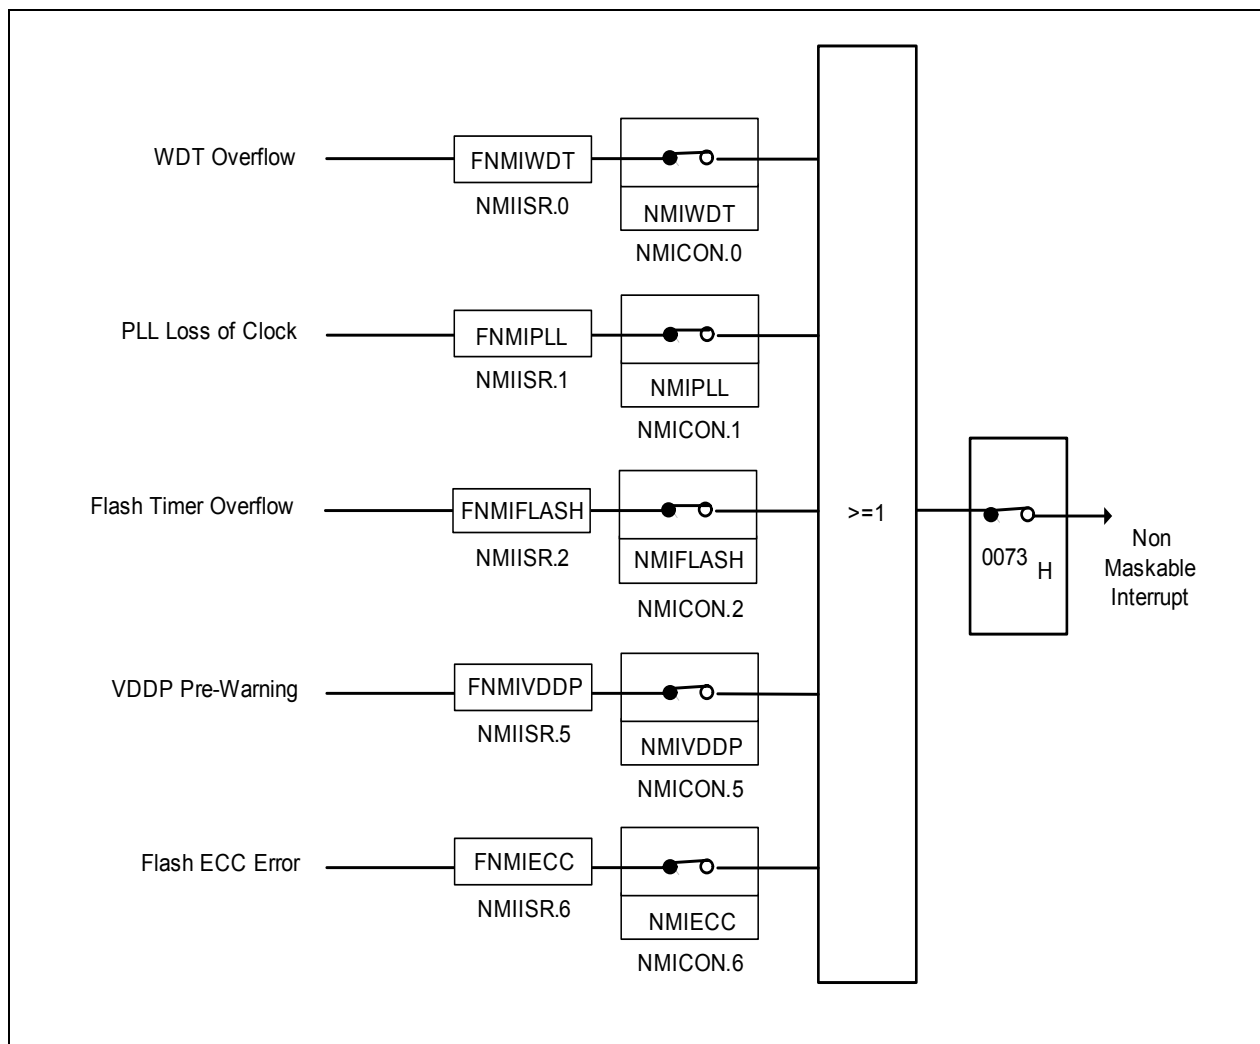
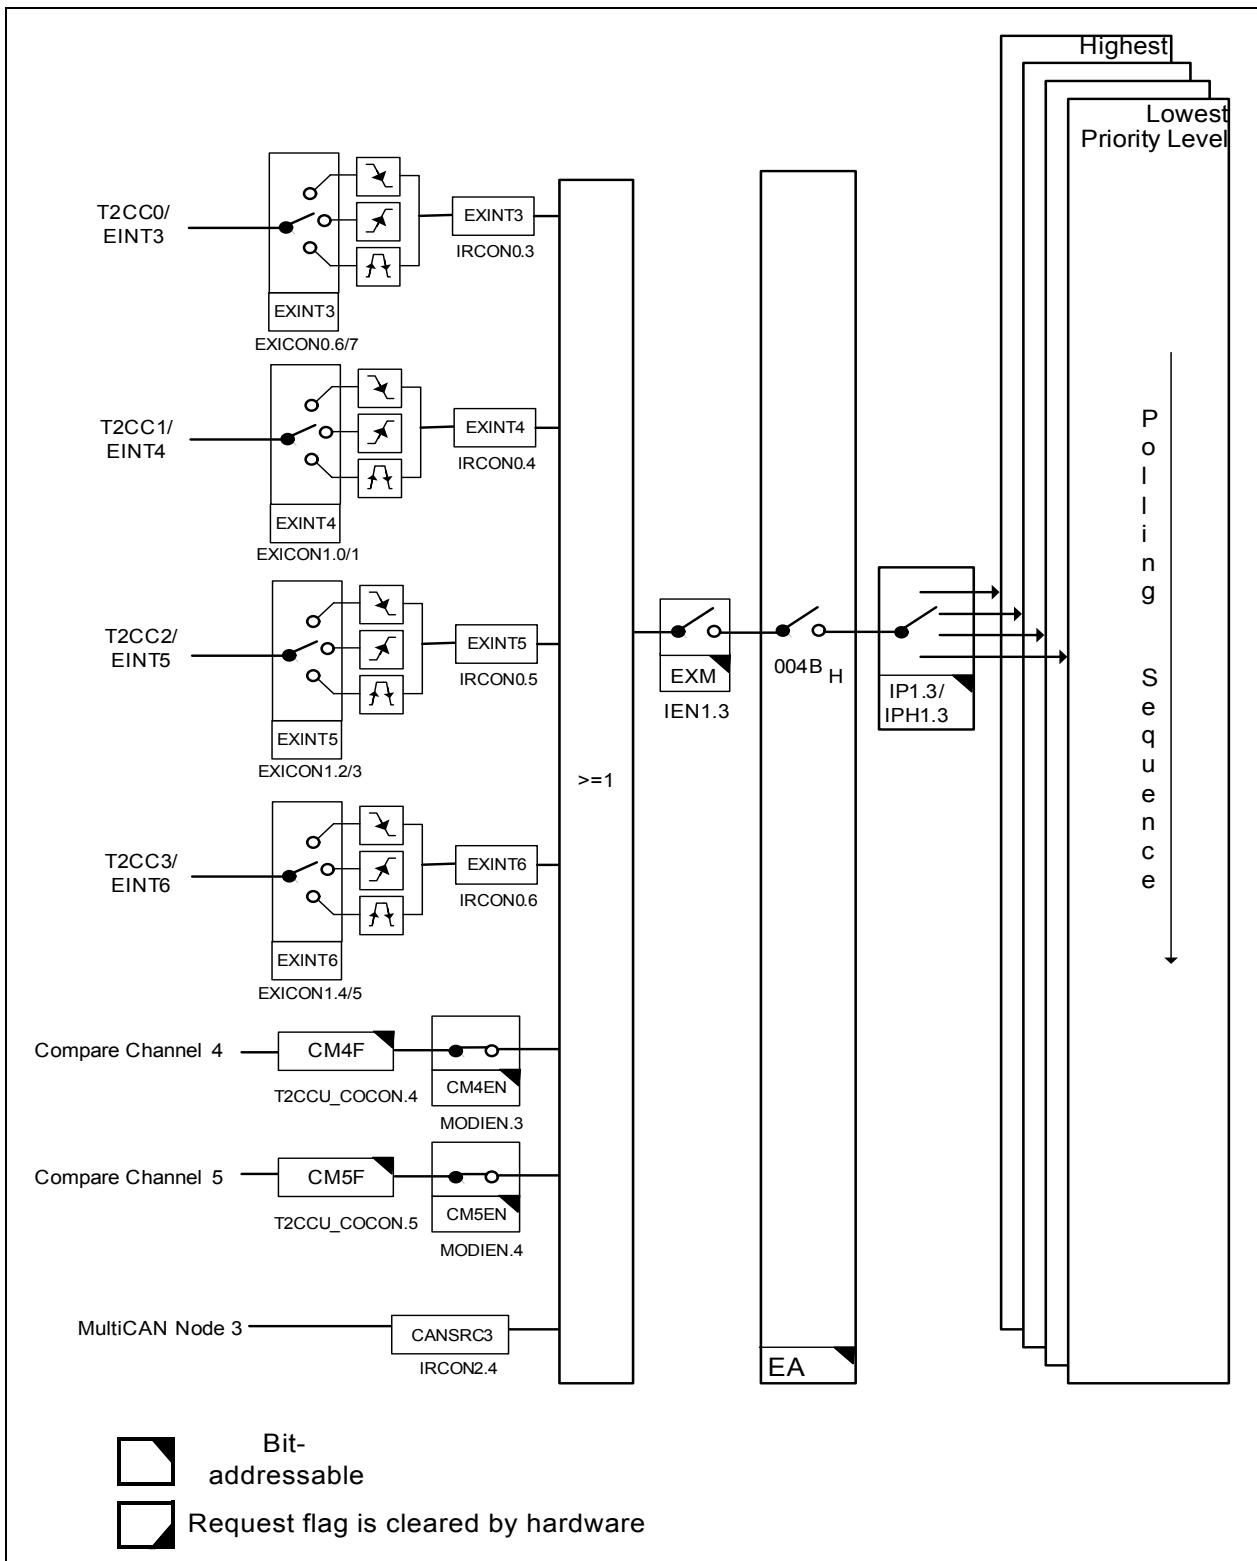

**Figure 12 Non-Maskable Interrupt Request Sources**
**Figure 16 Interrupt Request Sources (Part 4)**
**Figure 12** to **Figure 16** give a general overview of the interrupt sources and nodes, and their corresponding control and status flags.